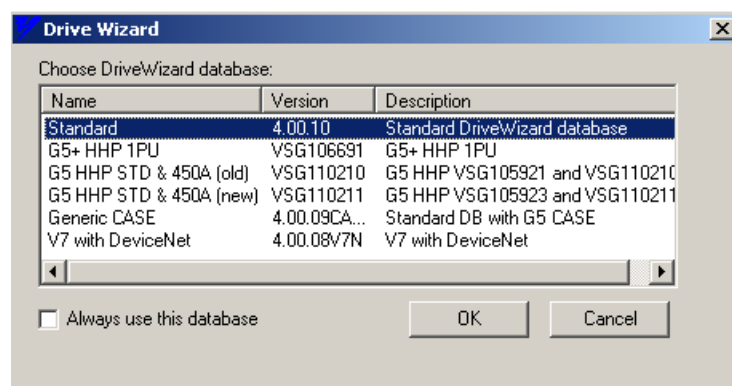

Figure 3.4: Database Select Window
3. The window in Figure 3.4 will appear